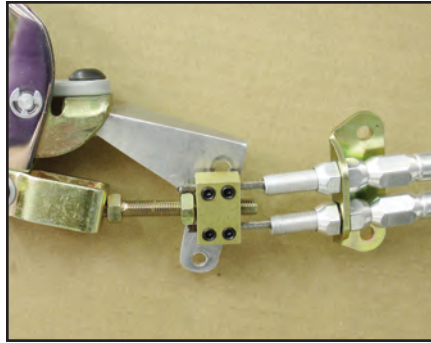

Figure 10
- Attach Cable Block to equalizer or hand brake handle by sliding Cable Block clevis over either the equalizer or the handle attachment point. Push clevis pin completely through the holes in the clevis. Slide washer over the clevis pin and insert cotter pin, but do not bend over, Figure 10.